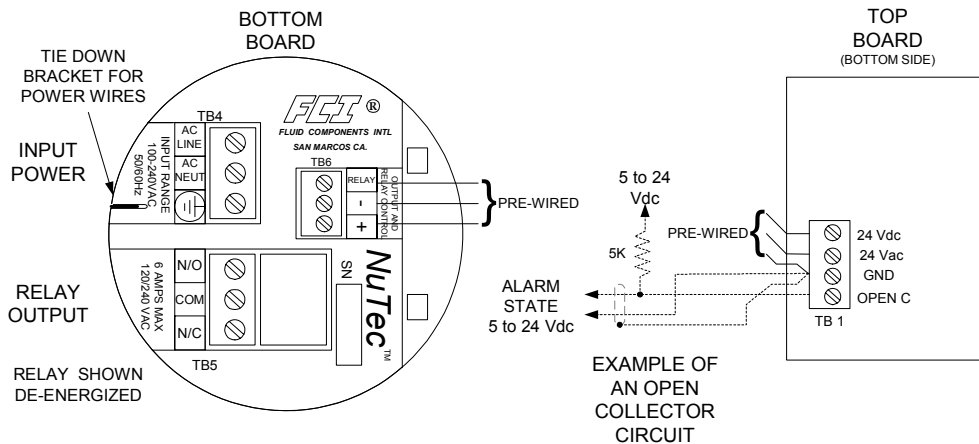

FIGURE 9 100 - 240 Vac Input Power
5. Attach the ac power leads to TB4 as indicated on the control circuit. Make sure that an earth ground wire is attached to the earth ground terminal. See figure 9.
7. After making the connections to TB4 and TB5 (TB1), secure all the wires to the tie down bracket with a cable tie wrap. See figure 9. This is required by safety agencies to act as a strain relief and to prevent fly off of a wire with high voltage potential.